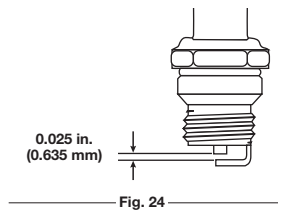

Fig. 24
- Replace cracked, fouled or dirty spark plug. Set the air gap at **0.025 in. (0.635 mm)** using a feeler gauge (Fig. 24).